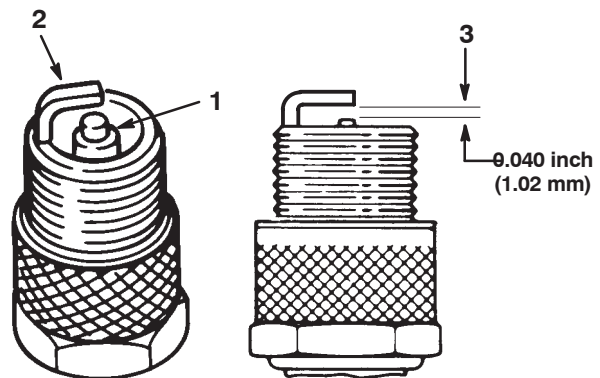

Figure 32
1. Look at the center of the spark plug (Fig. 32).
3. Check the gap between the center and side electrodes (Fig. 32).
4. Bend the side electrode (Fig. 32) if the gap is not correct.